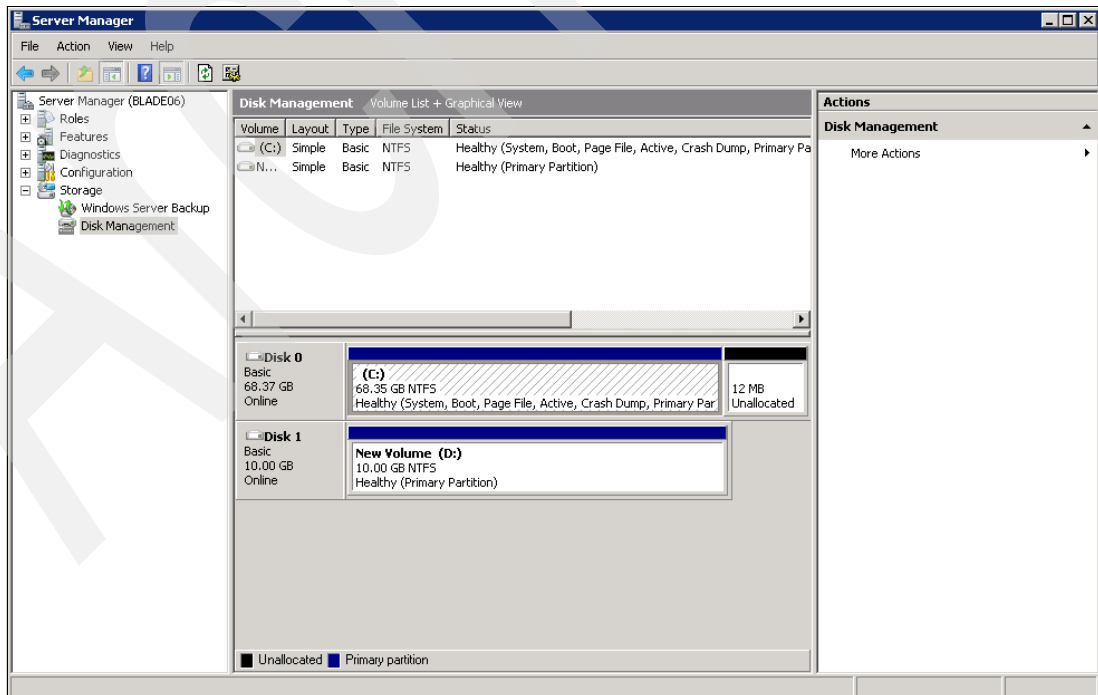

Figure 18-17 New partition on the logical drive
3. Follow the process under guidance of the wizard to define the partition size, drive letter, file system, and volume label. The partition will be created and formatted. The Disk Management applet now displays the new partition (allocated drive D), which is ready to be used (see Figure 18-17).